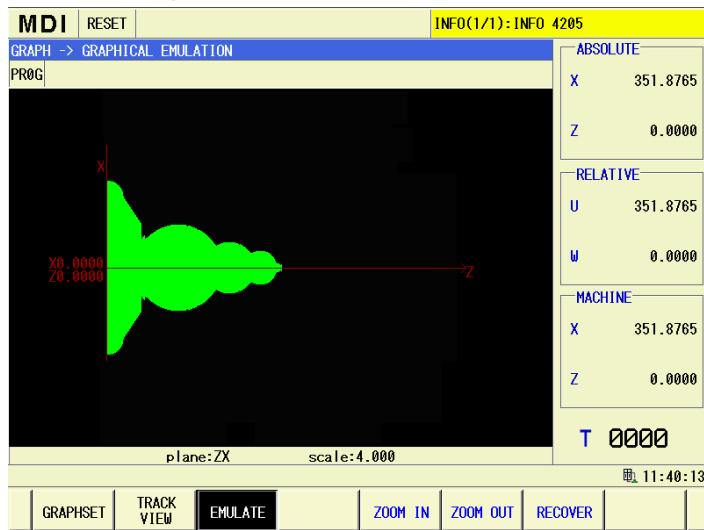

Fig.8-3
- (1) Press **GRAPH** function key to enter the graph page set;
- (2) On the graph page set, press **EMULATE** software key to enter the simulation graph display page, which is shown as Fig. 8-3: